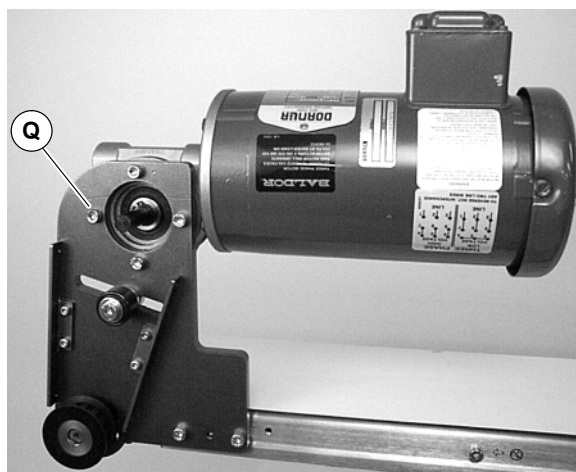

Figure 14
4. Remove four (4) gear reducer mounting screws (Q of Figure 14). Remove gearmotor.
12. Install gearmotor to mounting bracket and tighten screws (Q of Figure 14) to 103 in-lb (12 Nm).